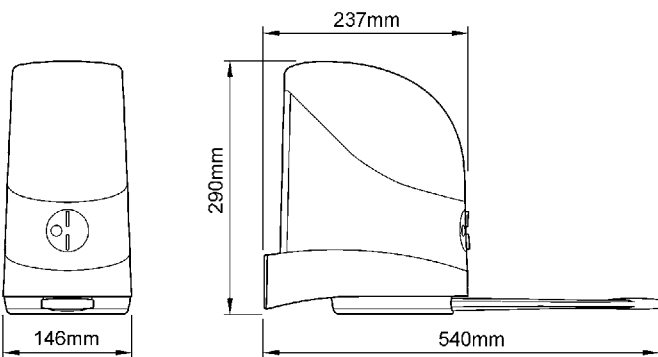

Figure 9
- Check the size limits referring to figure 9.